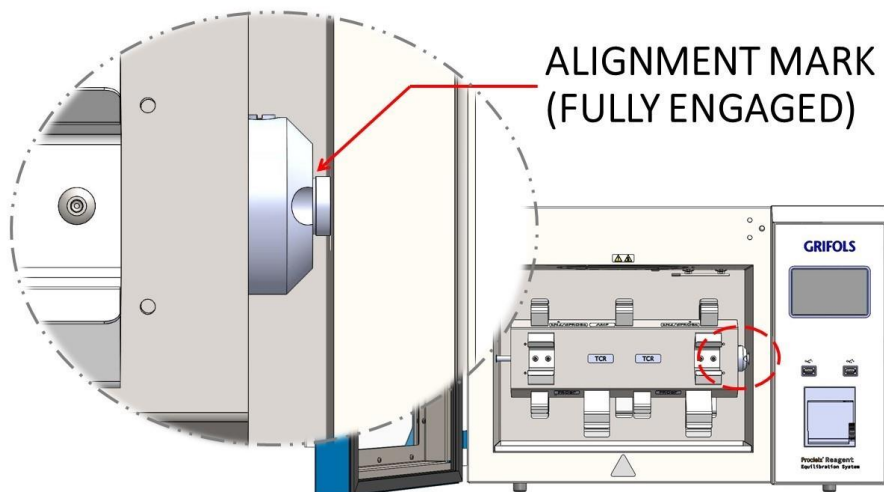

Figure 2.3 Alignment Mark
- Confirm full engagement by checking alignment of the mark on the drive shaft with the face of the socket, as shown in Figure 2.3 below.